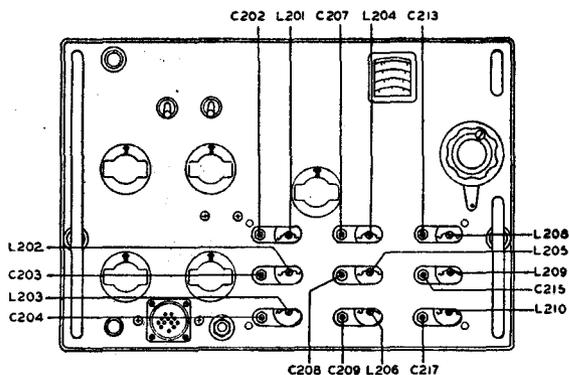

Fig. 19 Type -46159 Radio Receiver — Aligning Adjustments (Dwg. 500 9971 002)
5.2.4.2. The procedure outlined below should be followed in detail to obtain proper alignment of the receiver circuits. (Refer to Figure 19 for location of trimmers.)